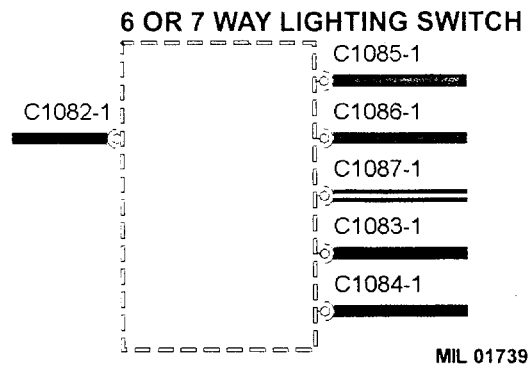

Fig 8 Components
17 The "cup and ball" symbol indicates the male and female halves of the connector (refer to Fig 8).
- 17.1 Plug on lead, fly lead (Fig 8 (A)), wired directly to the component.
- 17.2 Connector plugs directly into circuit (Fig 8 (B)).